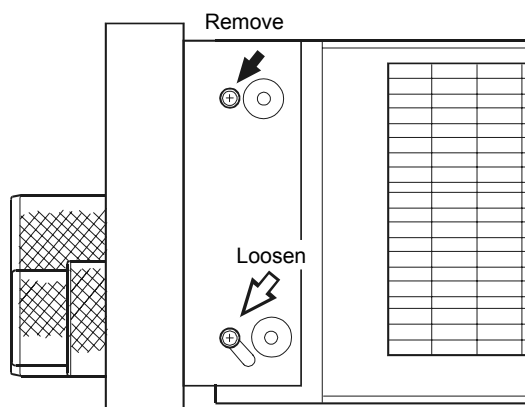

Figure 3
5. Referring to Figure 3, remove the screws (⇦) at the top left and top right that hold the front panel assembly in place, and loosen the two screws (⇨) at the bottom left and bottom right, so they can hold the front panel as it is folded forward.